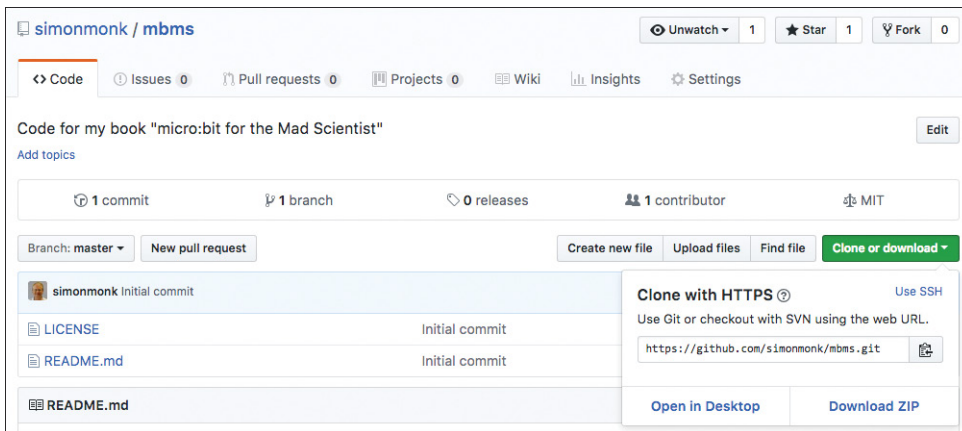

Figure 1-21: Downloading the code for this book
1. Visit <https://github.com/simonmonk/mbms/> and then click the green **Clone or download** button and select **Download ZIP**, as shown in Figure 1-21.